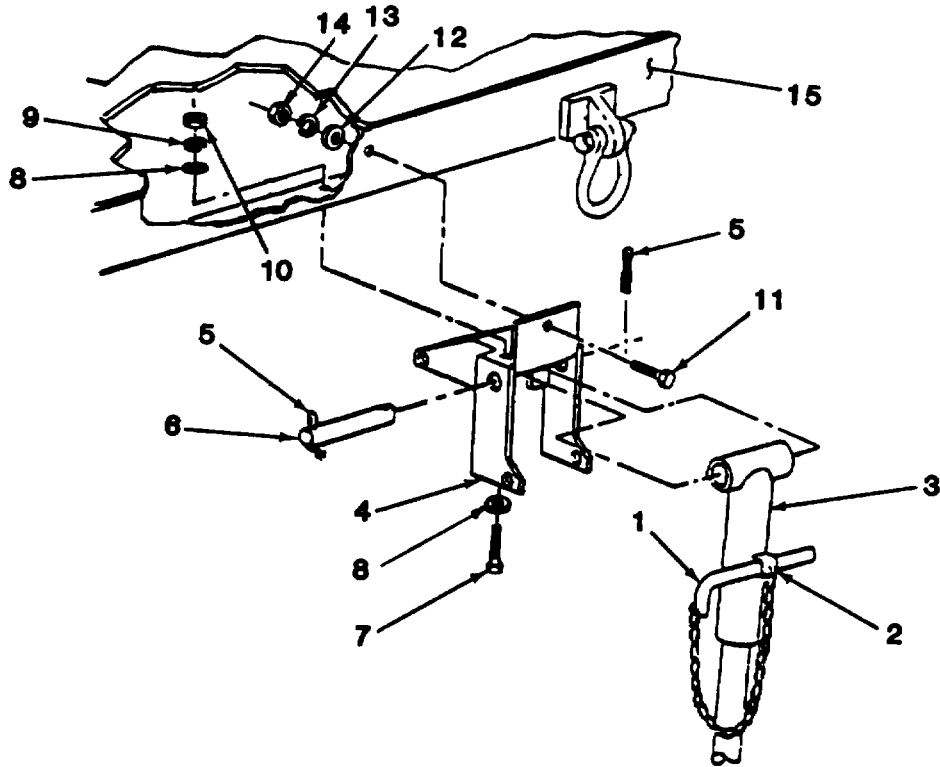

Figure 5-7. Rear Leg Prop Assembly Replacement.
- a. Leg Prop Assembly Removal. (See figure 5-7.)
- (1) While supporting rear leg prop assembly, pull out angled bar (1, figure 5-7) and lower the leg prop assembly from its traveling position.
- (2) Line up boss (2) on upper leg (3) with holes in bracket (4) and insert angled bar (1) to lock leg in support position.
- (3) Remove either one of two cotter pins (5) from leg prop assembly pivot shaft (6).
- (4) While steadying leg prop assembly, remove shaft (6) with remaining cotter pin (5) in place.
- (a) Clamp upper leg (2) in vise with spring pin hole facing up.
- (b) Insert leg base (3) into upper leg and turn leg base until hole in screw lines up with hole in upper leg.
- (c) Install spring pin (1) to secure leg base to upper leg.
- (1) Position bracket (4, figure 5-7) on trailer frame (15) and install two screws (7), four flat washers (8), two lockwashers (9) and nuts (1U).
- (2) Install screw (11), flat washer (12), lockwasher (13), and nut (14). Tighten all hardware.
- (3) Lift rear leg prop assembly into bracket (4) and secure by inserting angled bar (1) through holes in bracket and boss (2) on upper leg (3).
- (4) Position rear leg prop assembly to line up boss on top of leg with pivot holes in bracket (4). Insert pivot shaft (6).
- (5) Insert cotter pin (5) in pivot shaft (6) and bend cotter pin legs in opposite directions.
- (6) Pull out angled bar (1) to unlock leg prop assembly.
- (7) Swing rear leg prop assembly up into traveling position and secure by inserting angled bar (1) through holes in bracket (4) and boss (2) on upper leg (3).